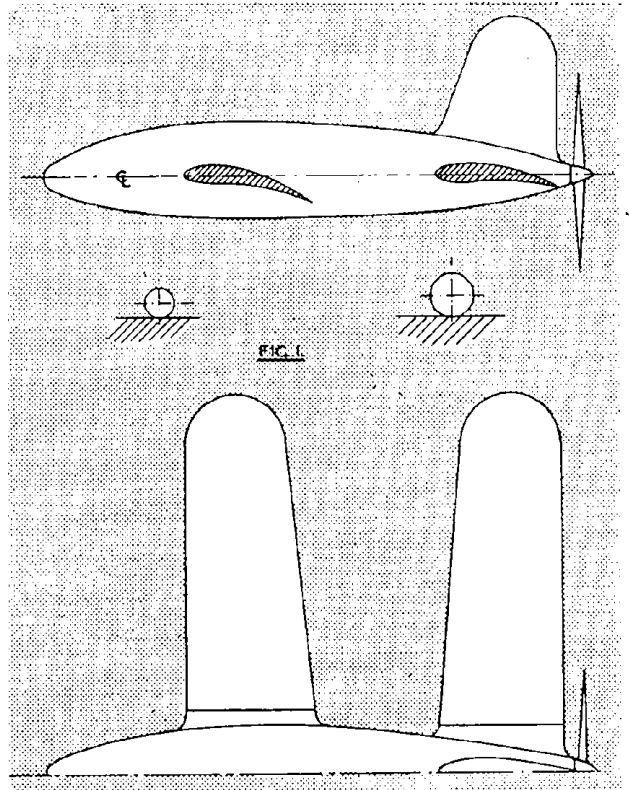

FIG. 1
The ordinary tandem layout is shown in Fig. 1; unfortunately, this layout has certain drawbacks. The turbulence set up by the leading wing affects the performance of the rear wing, and a large fin is needed for adequate directional stability. Also, if the leading wing is set at the angle of attack giving $\frac{Cl_{\alpha}^2}{Cd_T}$ max., the rear wing must be set at an angle which gives a lower value for the power factor, and the converse. Generally speaking, the best compromise is to set the *leading* wing, at the angle corresponding to the max. power factor for the machine. Another alternative is to set both wings at angles which give the best overall result.
If we know the speed, say, every 5 seconds of our power run, we can draw a graph of speed against time and derive a Power Output Curve of our rubber motor. Fig. 1 shows a set of curves taken by a method to be outlined in this article.
For a model under construction, a motor was required that would give a propeller speed of 20 turns per second for a good steady climb. Referring to the curves in Fig. 1 (A) shows immediately that this motor was useless as this speed was obtained only for approx. 5 seconds; (B) on the other hand is obviously the one we require, as this gives between 25 and 20 revolutions per second for approx. 40 seconds, a really useful time; (C) and (d) are equally not the motor we require, as these show